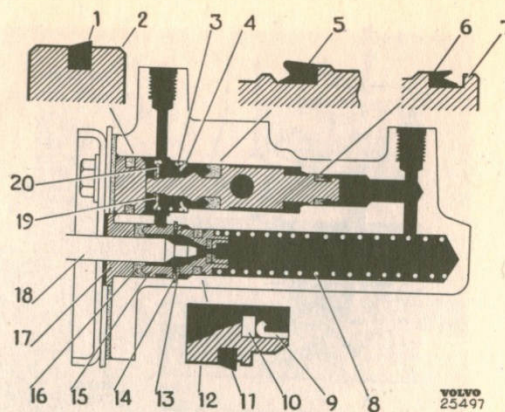

Fig. 7-25. Hydraulic control parts
3. Remove the cover (7) from the valve housing (6). Unscrew the screws (10) and lift out the yoke (11), spring (4) and valve arm (3).
4. Remove the gasket (27) and strike the housing against a wooden object so that the plug (2, Fig. 7-25) falls out. Remove the control plunger (7).
5. Remove the sleeve (17), packing (16) and spacing sleeve (15). Remove the locking ring (14) with a pair of suitable pliers and lift out the other parts.
1. Take a new plunger (12, Fig. 7-25) with inner packing (10) fitted. Fit the plunger packing (11) and turn it as shown in the figure. Place the spring (8) on the plunger. Dip the plunger in brake fluid and insert the unit into the cylinder. Fit the washer (13) and press it in so that a new locking ring (14) can be fitted. Place the packing (16) on the spacing sleeve (15) and fit in. Place the sleeve (17) in position.
2. Place the packings (5 and 6) onto the control plunger and turn them as shown in the figure. Fit washers, spring (3) and locking ring (19). Dip the plunger in brake fluid and fit it as shown in Fig. 7-25. Turn the plunger so that the valve arm (3, Fig. 7-5) can be fitted in its hole.
4. Place the packing (1) on the plug (2) and fit it so that the packing flange comes inwards, see Fig. 7-25. Let the plug project about 1/16" (1-2 mm) outside the flange. Place the plate (21, Fig. 7-5) onto the vacuum line and the new gasket (27),